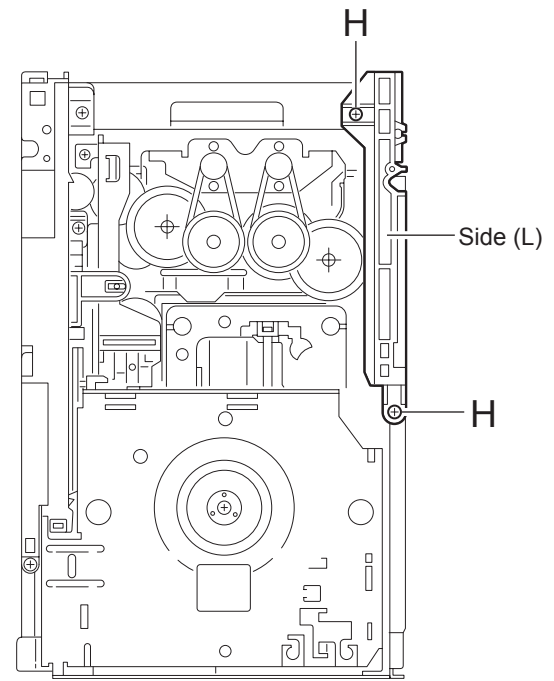

Fig.15
3.3.7 Removing the side (L)/ tray switch board (See Fig.15 ~ 17)